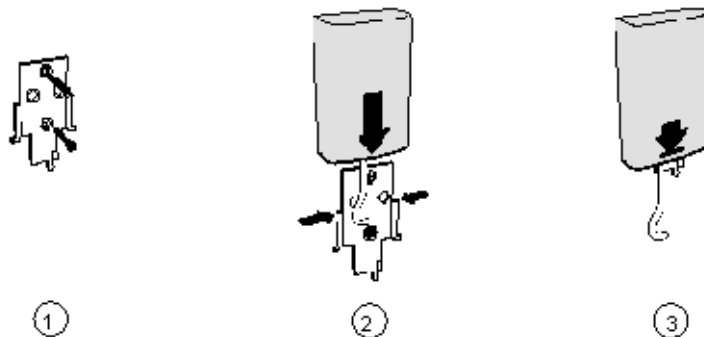

Figure 11. Installing the indoor multi-band panel antenna
1. Fix the attachment plate to the wall using two 4 mm diameter screws. See [1] in Figure 11.
2. Align the antenna over the attachment plate, keeping the cable in the middle of the plate. See [2] in Figure 11.
3. Pull the antenna downwards until it clicks into place. See [3] in Figure 11. Do not pull the antenna downwards with the antenna cable.